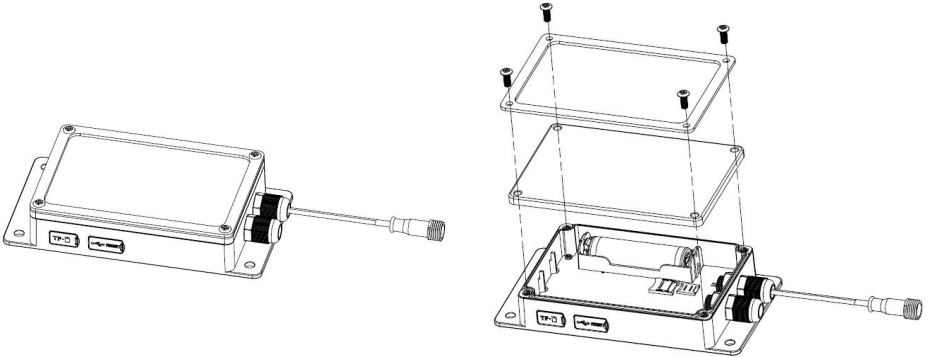
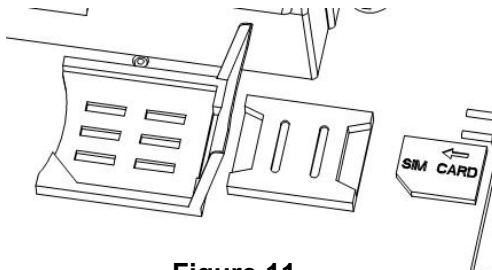

Figure 10
Figure 11
1. Before power on the device, please open the case (Figure 10) and use a 3G SIM card to install in one of the SIM card slots. (Figure 11).The Bigger slot is for micro SIM card and the other is for Nano SIM card.
Nano SIM card slot: Insert the sim card into slot directly as shown in Figure 11.